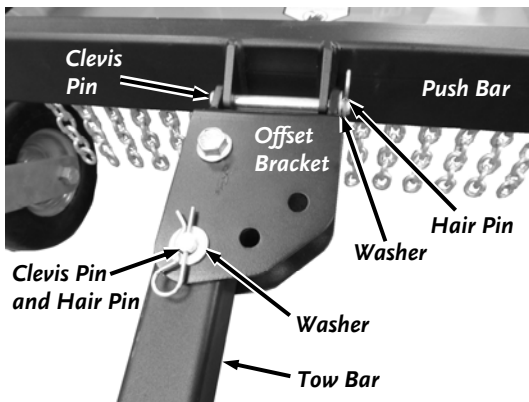

Figure 4
1. Secure the Offset Bracket to the Push Bar in the configuration shown (for left side offset) using the 4.5" long Clevis Pin, Washer, and Hair Pin (Figure 4).